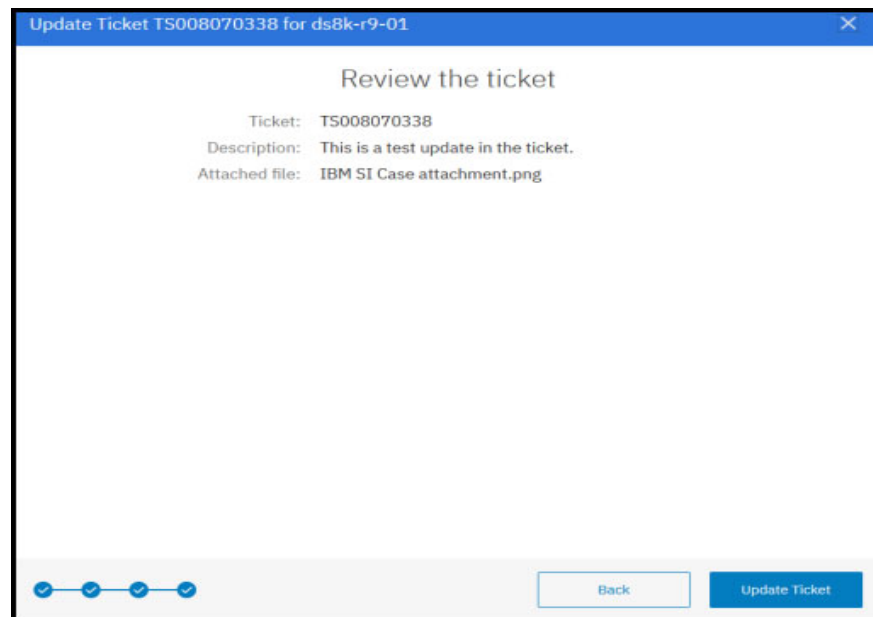

Figure 12-29 IBM Storage Insights: Update summary
- In the window that is shown in Figure 12-29, you see a summary of the update that is about to be left in to the ticket. To complete the process, click **Update Ticket**.